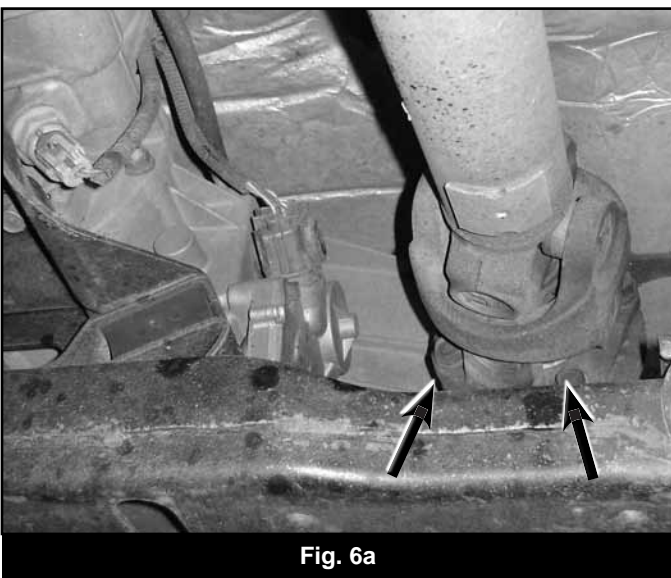

Fig. 6a
11. Remove the 4 bolts that attach the front driveshaft to the transfer case. (Fig 6a, 6b)